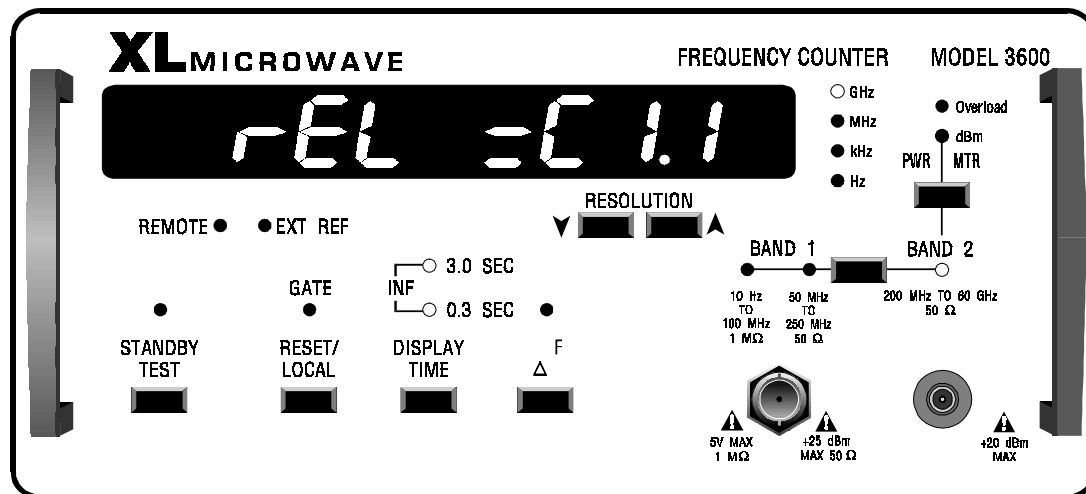

Figure 2-1. Firmware Release
1. Push and hold the [DISPLAY TIME] button while plugging the instruments AC cord into the AC MAINS. The instrument will now display the release number in the format "rEL = CX.X" where X.X is the release number (see Figure 2-1 below).